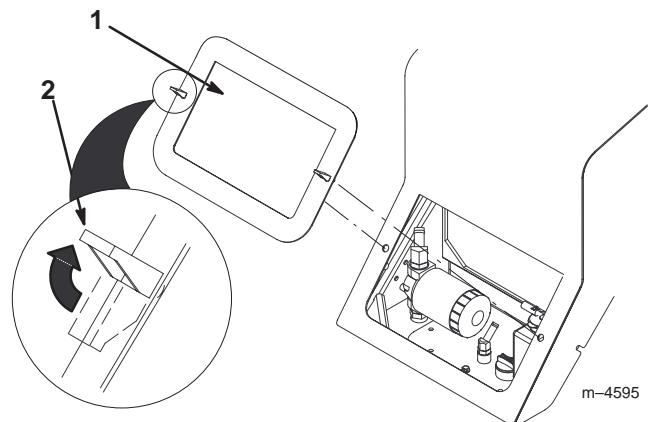

Figure 20
3. Release the two locking tabs (Fig. 20).
4. Pull the cover off of the traction unit (Fig. 20).